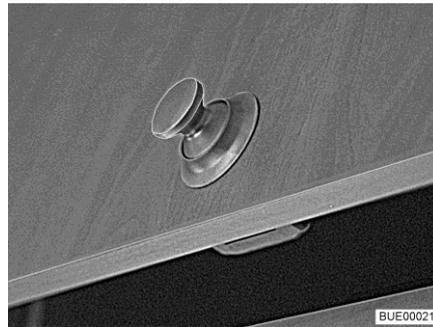
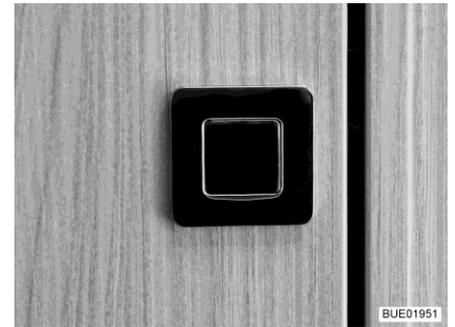

Fig. 50 Furniture flap with push button (round) (round)
Fig. 51 Furniture flap with push button (square)
- Press inner part of the lock. The push button (Fig. 50 or Fig. 51) jumps out.